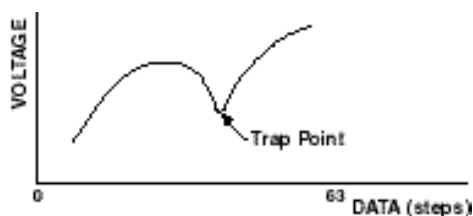

Figure 7. Filter Adjustment
20. Adjust the + or – key until voltage is at trap point. Voltage change in the filter adjustments is shown in Figure 7.